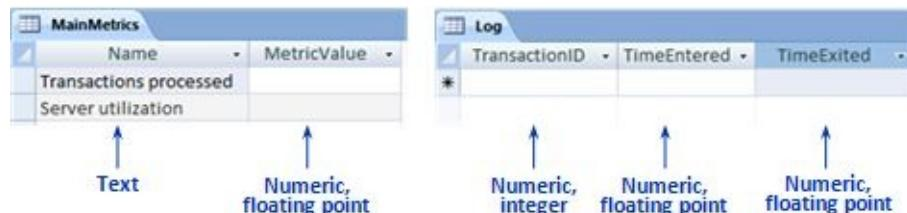

Figure 11.24 Database with two tables prepared to accept the simulation output
We will create a simple transaction processing model, run it for a certain time, and write all statistics to the database. The database will initially contain two tables: one with the main metrics, and another with the details of each transaction processing (see Figure 11.24).
1. Prepare an MS Access database with two tables, as shown in Figure 11.24. Save it in the file *Output Data.accdb*.